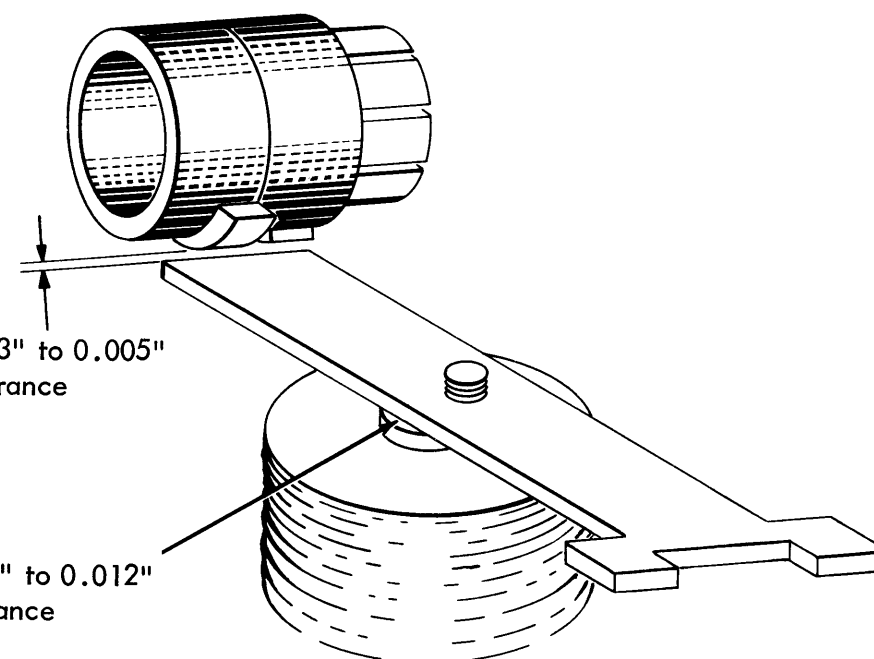

Figure 4-23. Punch Clutch Magnet
1. Position the core with shims (part 305271) for 0.006-inch to 0.012-inch clearance between armature and core with armature attracted (Figure 4-23).